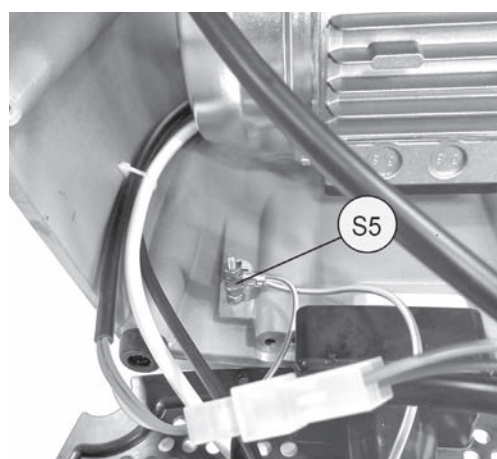

Fig. 62
- 14) Connect the connectors (S2) (Fig. 49) to the motor on switch and fit the earth wire to its screw with the nut (S5) (Fig. 62).